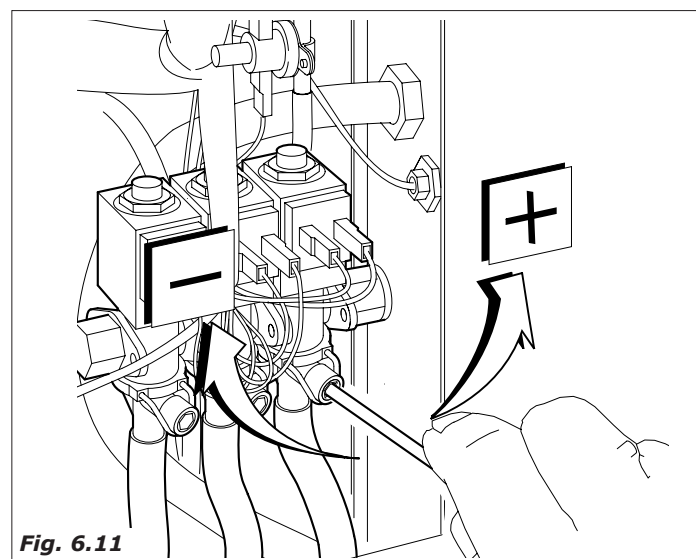

Fig. 6.11
- To obtain a good rinsing of cups possibly act on the rate screw and then check that doses are reliable (Fig. 6.11).